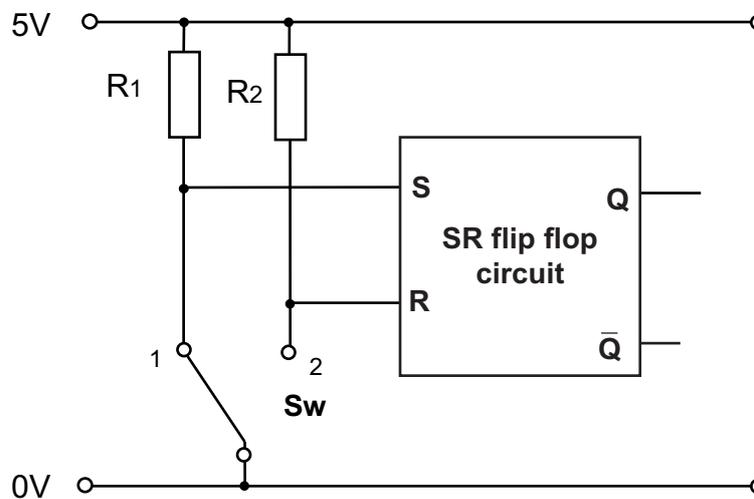

Fig. 10(b)
- (i) Explain the purpose of the resistors R1 and R2 shown in Fig. 10(b). [2]